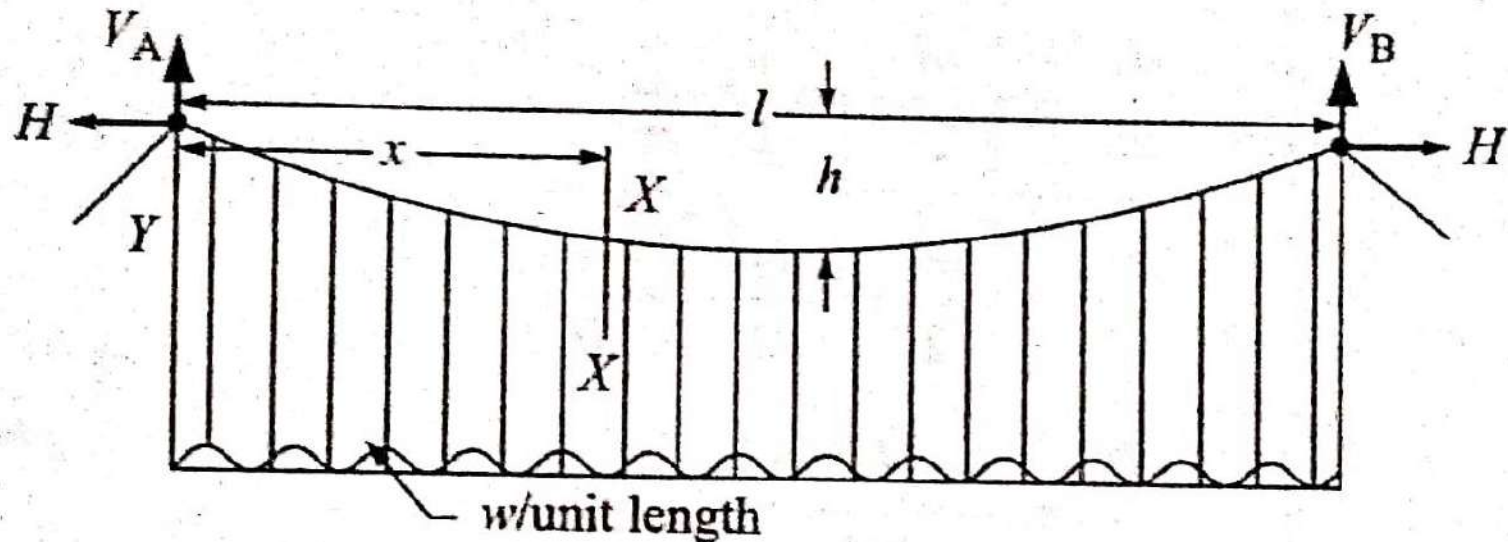

Figure 6: A typical cable subjected to udl
- Let a cable of length L be supported at points A and B which are at a horizontal distance l and are at the same level as shown in Figure 6.